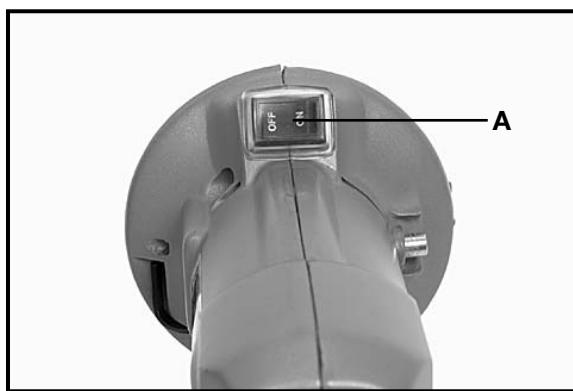

Fig. 1
The Cutout Tool is equipped with a "rocker" type switch (A) Fig. 1. One end of the switch button is labeled OFF, and the other end is labeled ON.